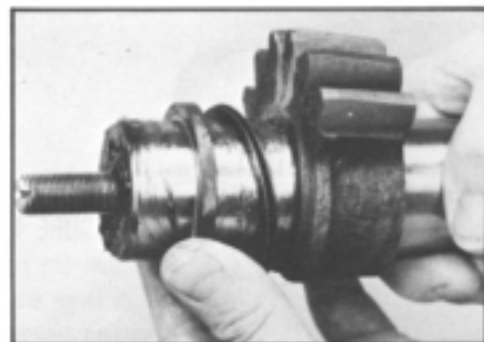

Figure 150
44. Slide retaining ring (62) if required onto the cover end of sector shaft (51). Assemble the **new** two-piece seal (48) onto the end of the sector shaft about 1 inch (25.4 mm). The words "Oil Side" on the seal must face toward the sector shaft. SEE FIGURE 150.